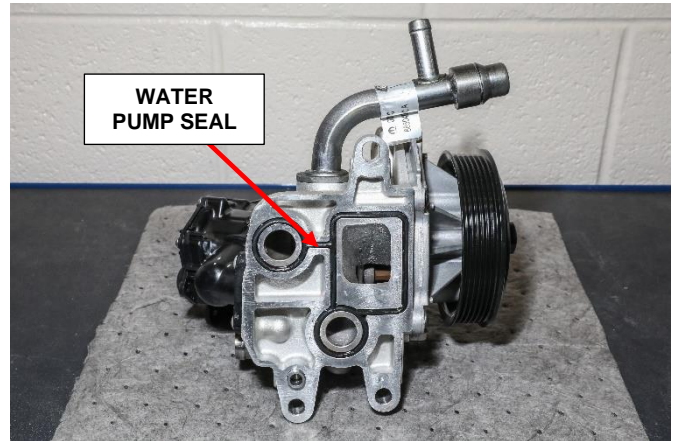

Figure 4 – Water Pump Seal
33. Remove the water pump housing to block seal and **DISCARD** (Figure 4).